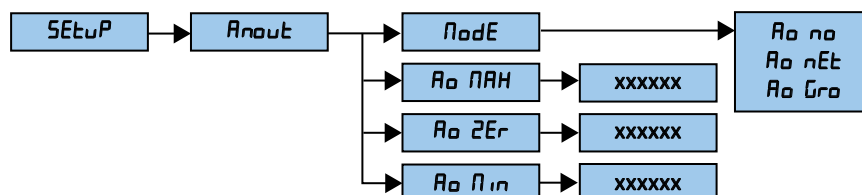

Figure 4-7. Analog Output Menu
1. Enter setup mode and go to the $Rn\ OUT$ menu (see Figure 4-7 on page 29).